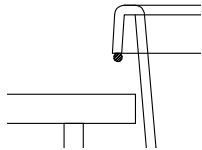

Fig 1.
7. Apply a continuous generous bead of good quality silicone onto the rim around the lower perimeter of the sink (fig 1).